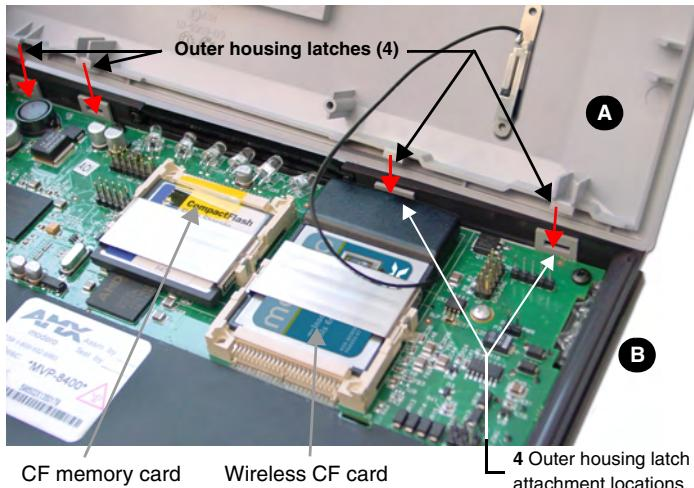

FIG. 5 Wireless CF card and outer housing latch attachment locations
1. Reinstall the dark grey trim along the top rim of the board (**B** in FIG. 5).
2. While angling the top rim of the MVP's rear outer housing (**A** in FIG. 5) down toward the IR Emitters, insert the four outer housing latches into their corresponding attachment locations along the top rim of the MVP panel (two on either side of the IR Emitters).
5. Firmly press down around the entire rim of the outer housing to snap the cover back into place (FIG. 5).
8. Grab the battery cover and align it over the edges of the battery compartment. Apply downward pressure to the traction grooves on the Battery Compartment cover and slide it back towards the metal plate to reinstall the cover (FIG. 5).